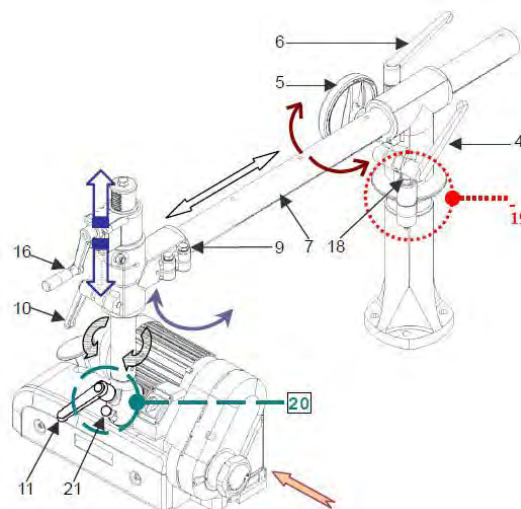

Fig. 30: Setting the swivel head
Step 3: Pull the clamping pin (Pos. 21, Fig. 30) and turn the feed.
Step 4: Release the clamping pin (Pos. 21, Fig. 30) as soon as the feed is turned.
Step 5: As soon as the position is reached, the feed engages. Retighten the clamping lever (Pos. 11, Fig. 30).